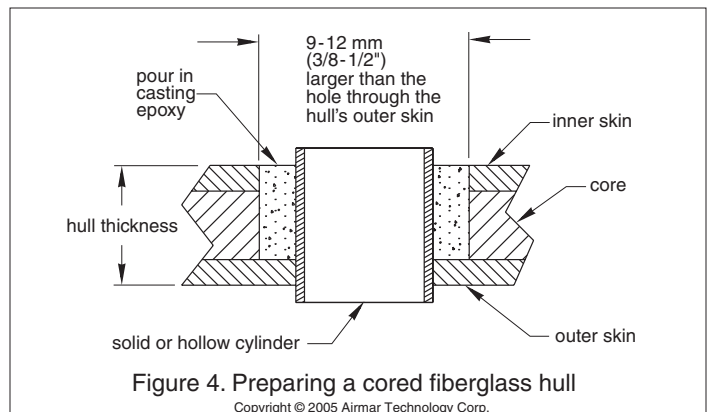

Figure 4. Preparing a cored fiberglass hull
2. Using a 51 mm or 2" hole saw, cut the hole from outside the hull through the *outer* skin only (see Figure 4).